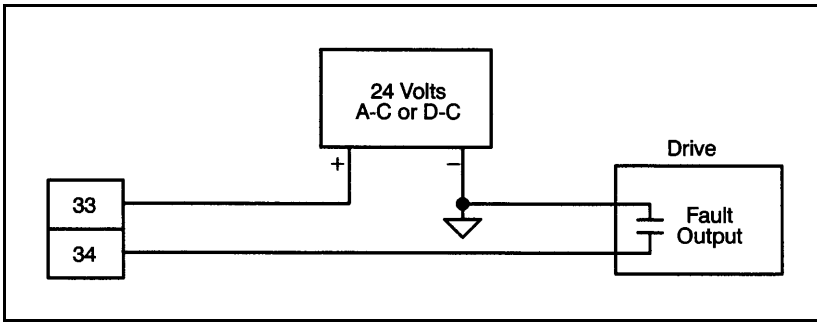

Figure 3.8 – Typical Drive Fault Connections
- Step 12. Fasten the field wires from the drive fault inputs to the terminal strip. This signal is used to notify the module that a problem has developed in the servo. It must be connected if available. Typical field connections are shown in figure 3.8. Be sure to use the proper connections for your servo amplifier.